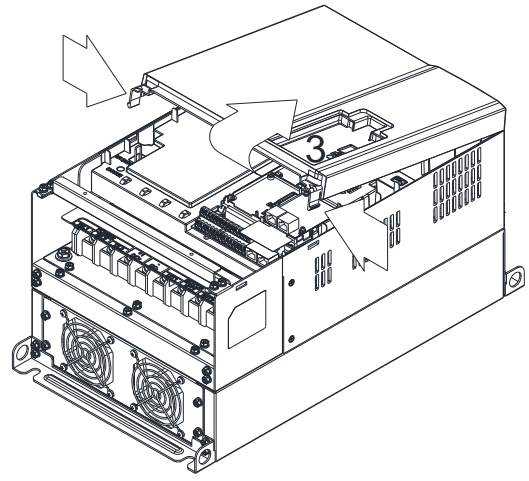

Figure 2
- (Figure 2) Loosen screw 3, press the tab on the right and the left to remove the cover. Screw 3 『Torque : 6~8kgf-cm (5.2~6.9lb-in)』